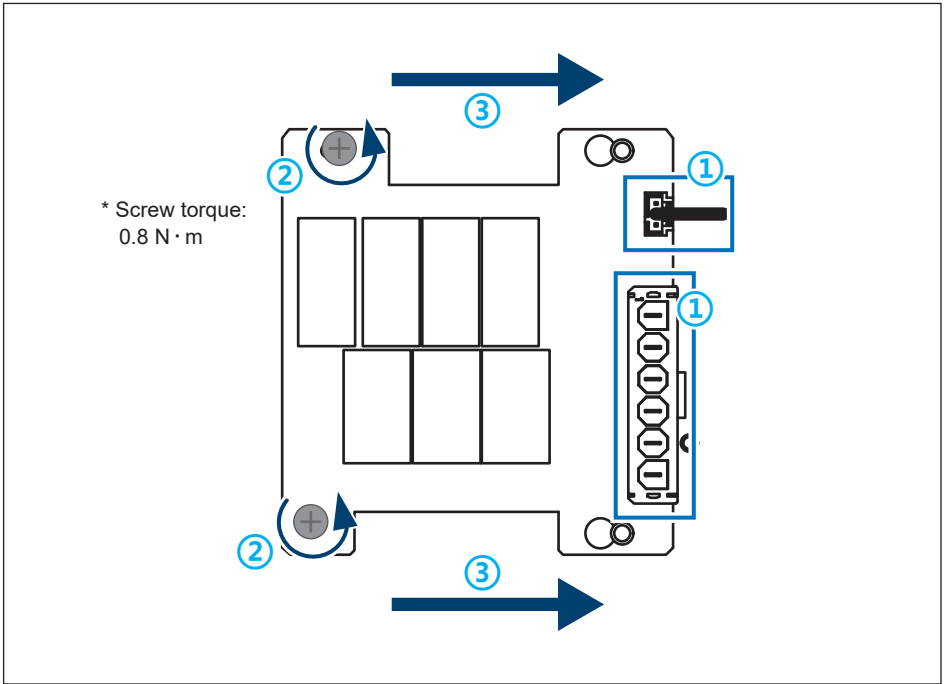

Figure 5-6: Remove sensing cable and screws
4. AC SPD is with two signal wiring connectors, please disengage them from AC SPD PCB (**Figure 5-6-①**).
5. Remove two self-retaining screws(**Figure 5-6-②**), then remove the AC SPD after sliding.